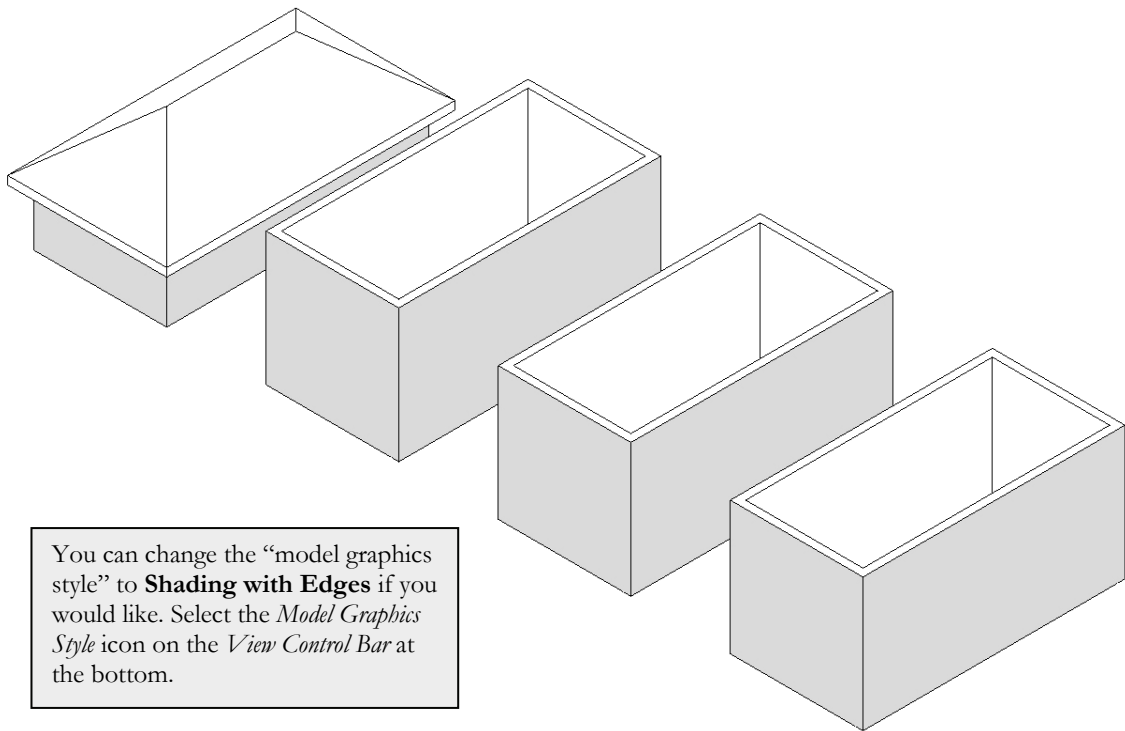

FIGURE 7-1.4 3D view – hip roof
- Switch to the **3D** view using the icon on the *QAT* (Figure 7-1.4).